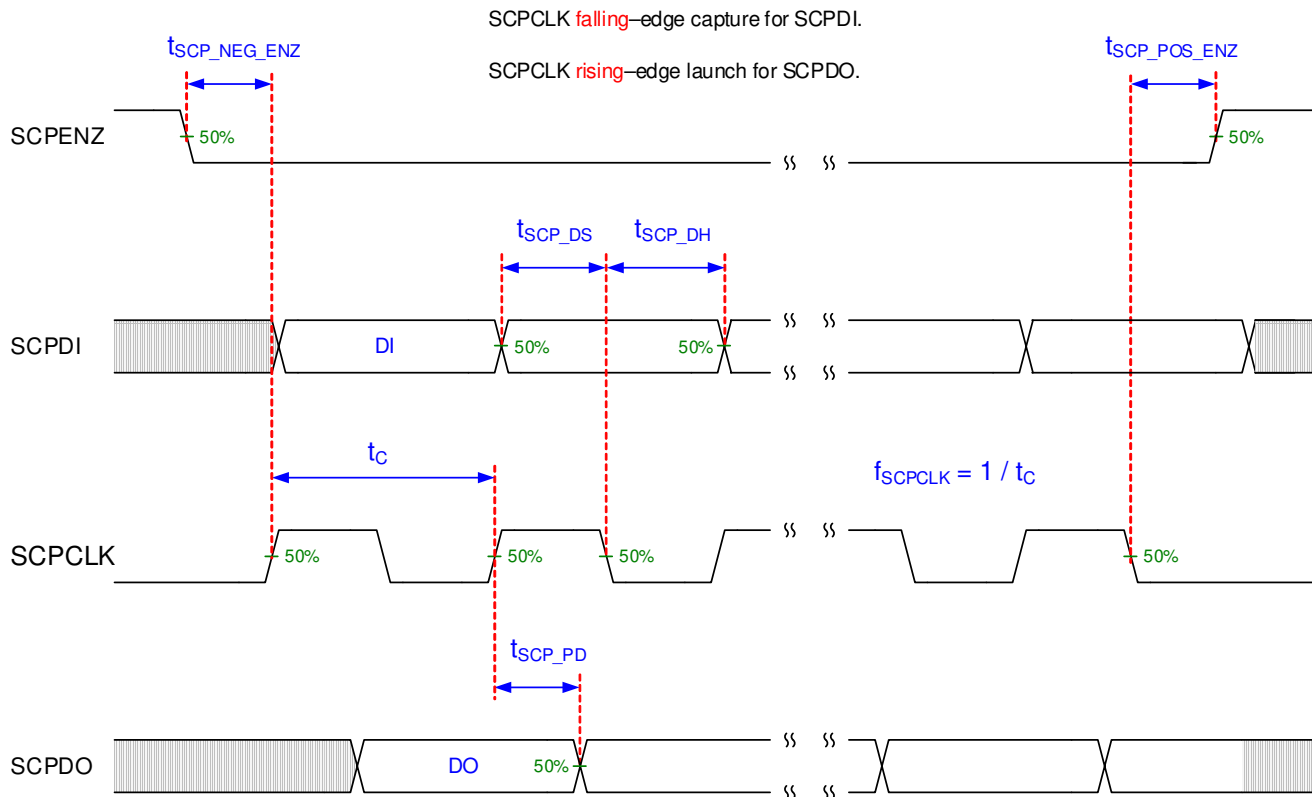

Figure 5-2. SCP Timing Requirements
- (5) Low-speed interface is LPSDR and adheres to the Electrical Characteristics and AC/DC Operating Conditions table in JEDEC Standard No. 209B, "Low-Power Double Data Rate (LPDDR)" JESD209B. Tester Conditions for VIH and VIL.
- (6) PWRDNZ input pin resets the SCP and disables the LVDS receivers. PWRDNZ input pin overrides SCPENZ input pin and tristates the SCPDO output pin.
- (7) The SCP clock is a gated clock. Duty cycle shall be 50% \pm 10%. SCP parameter is related to the frequency of DCLK.
- (8) See Figure 5-2